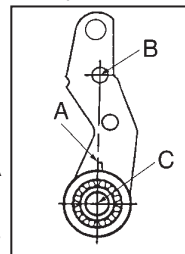

Figure 7
2. Tang of wrap spring must be below, and must make contact with, wrap spring stop (76) when solenoid lever (28) is manually raised. If stop is bent outward, allowing tang to bypass it, rebend to square position, assemble correctly, and reset solenoid air gap as described in Paragraph 1.
3. Should air gap have decreased or disappeared, the solenoid lever and pinion assembly (8) may have become contaminated due to lubrication or residue as a result of overheating of brake. For reference purposes refer to Figure 7. Tang A should align with the centerline of hole B. Use kit #5-66-7371-00 if replacement is necessary.